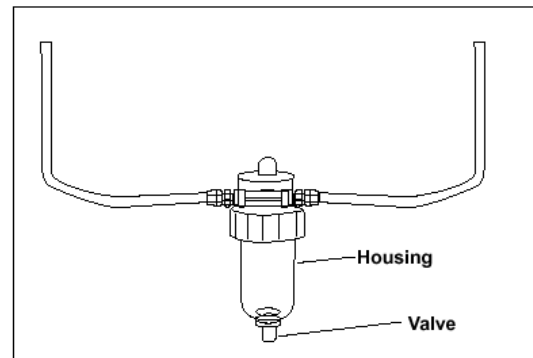

Figure 9. Oil Sump
3. Open the valve located on the bottom of the oil sump (figure 9) and drain any excess oil.